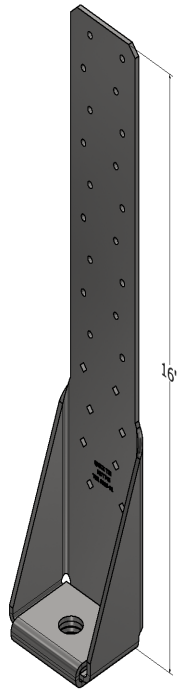
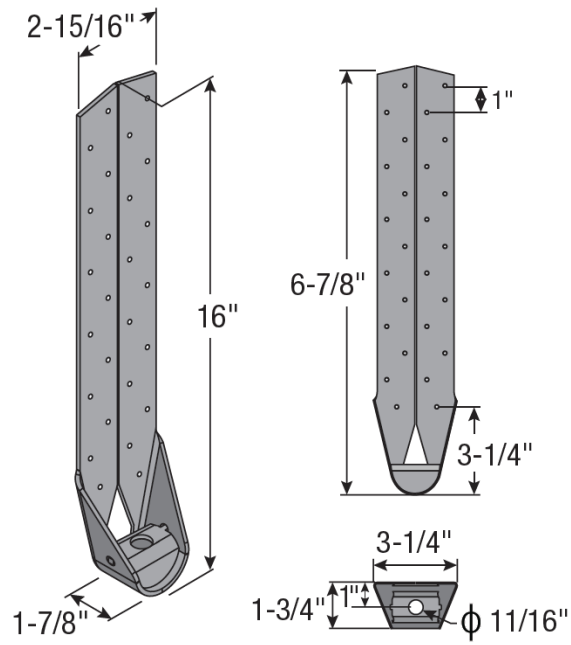

FIGURE 1. HDTT45 HOLD DOWN
FIGURE 2. **HDTT6** HOLD DOWN
1. Hold Downs (HD) are used to resist uplift forces due to wind or overturning of shear walls. These are available in various sizes to meet the light to heavy load requirements using nails, screws, and bolts as fasteners.
3. *HDTT45 and HDTT6 Hold Downs*: HDTT45 and **HDTT6 Hold Down Connectors** are used to anchor stud walls into concrete. The HDTT45 and **HDTT6** are 10 gauge (minimum thickness with coating is 0.135") steel. HDTT45 is manufactured from *ASTM A653* Structural Steel, Grade 40 ($F_u = 55$ ksi, $F_y = 40$ ksi) steel galvanized with G90 or better zinc coating (see Figure 1). **HDTT6** is manufactured from *ASTM A653* Structural Steel, Grade 50, Class 3 ($F_u = 70$ ksi, $F_y = 50$ ksi) steel galvanized with G90 or better zinc coating (Figure 2). The HDTT45 is attached to the bottom plate with a $\frac{5}{8}$ " threaded rod and is attached to the stud with 16d nails. The **HDTT6** is attached to the bottom plate with a $\frac{5}{8}$ " threaded rod through a 7 gauge steel washer and is attached to the stud with 16dx2- $\frac{1}{2}$ nails (0.162" x 2.50"). See Table 1 for fastener schedules and minimum fastener requirements.